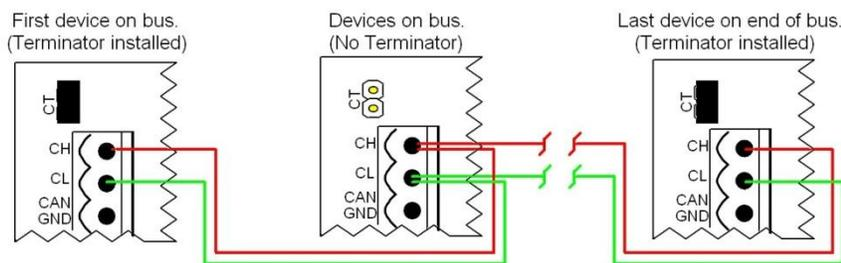

Figure 2
3. Wire the controls as shown in Figure 2 from one control to the next with terminators (CT) installed only on the last control on each end of the system. Wire polarity must be observed. Only two terminators are permitted in the system. CAN cable must be SAE J1939 compatible and wired from one control to the next without any star type wiring configurations. Any other wiring method will not work properly.